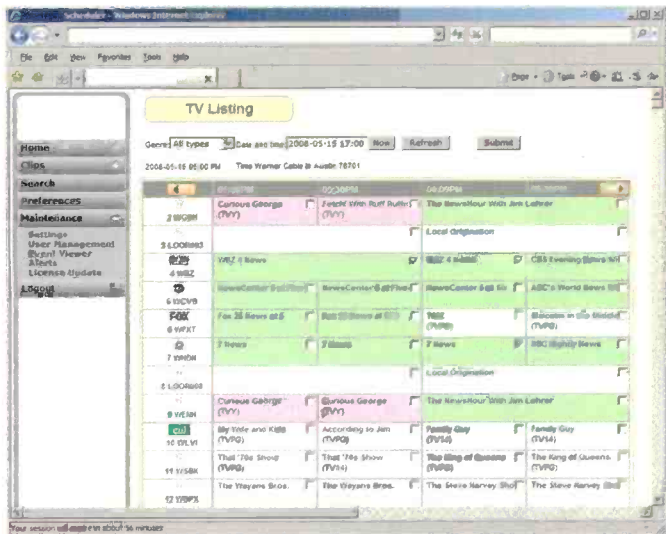

Figure 4. Monitoring systems should display EPG information as it would appear in its native format.
- *Support of standard, intuitive user interfaces.* In order to run in an existing IP network, the system comes bundled with its own Web server and offers easy, ubiquitous access from any Web browser, anywhere. Likewise, the interface enables broadcast engineers to work with the video using the commands they're used to, such as fast-forward, rewind, stop, pause and play. Also, the system displays EPG information exactly as it would appear in its native format, with easy-to-use checkboxes for selecting specific programs or channels to record. (See Figure 4.)